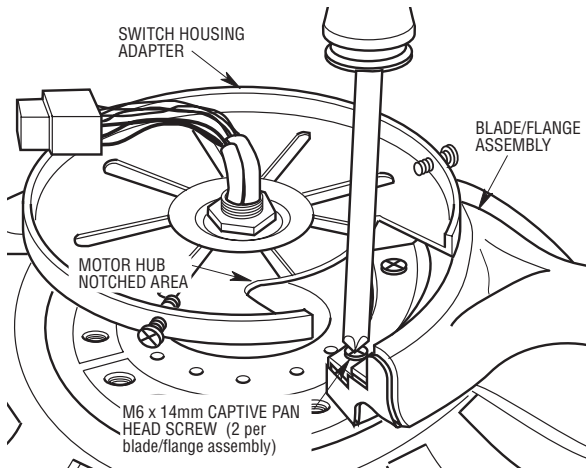

Figure 3
3. Loosely attach one blade/flange assembly to the motor hub by securing the two M6 x 14mm captive pan head screws. Make sure the screws are NOT tightened (Figure 3). Repeat this procedure for other four blade assemblies.